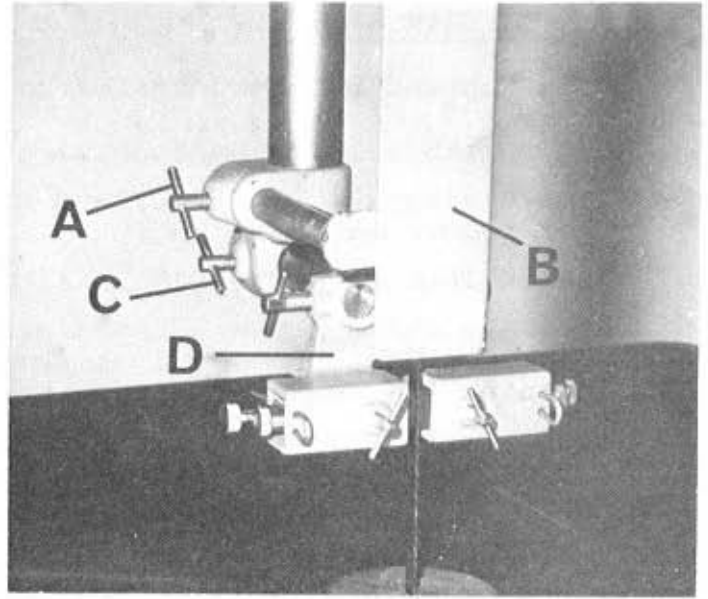

FIG 3
3. Loosen locking screw "A" in FIG.3, then remove sawguard "B".
2. Loosen locking screw "A", FIG.3, and remove sawguard "B".
6. Replace sawguard "B", FIG.3, and lock screw "A".